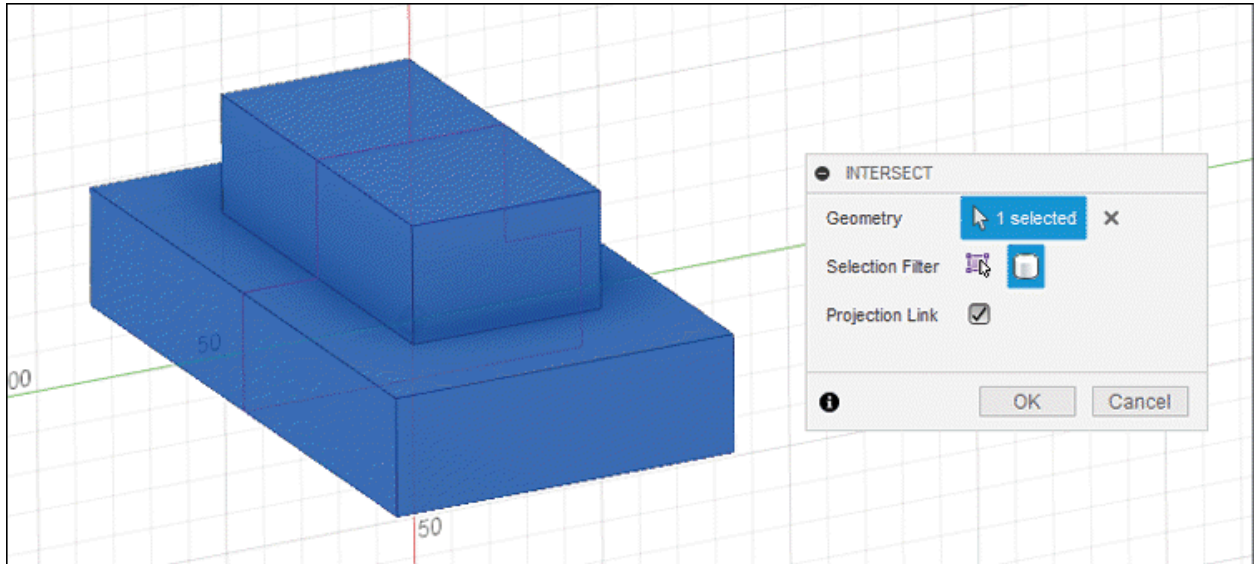

Figure-148. Selection of intersecting objects
- Select the objects that are intersecting with current sketching plane and their intersection curves are to be generated; refer to Figure-148.